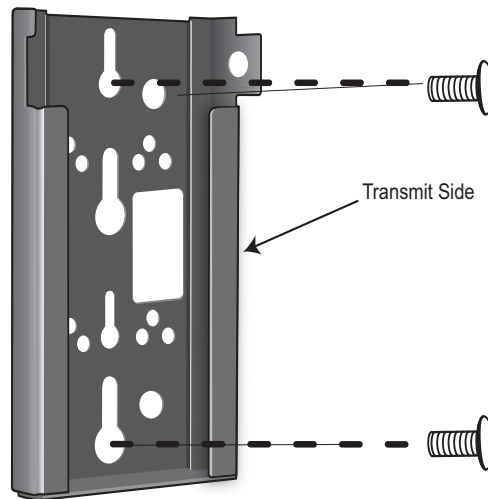

Figure 10 Attach the Mount Bracket
- When mounting the radio node vertically, orient the bracket with the open end on top and the closed end on the bottom. Figure 10 on page 14 shows the proper vertical orientation.
- When mounting the radio node near a wall or other obstruction, orient the bracket such that the radio node transmit side towards the coverage area. In vertical mountings, this is on the right side of the radio node. Figure 10 on page 14 shows the mounting bracket orientation.